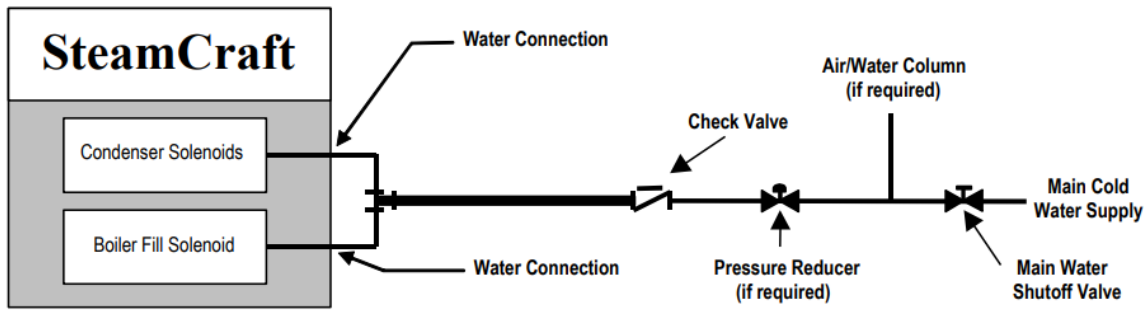

Figure 3-5 Cleveland Range Single Water Supply Arrangement
- c) If the supply water meets the requirements shown in the Warranty, then the Single Water Supply Arrangement shown in Figure 3-5 may be used.